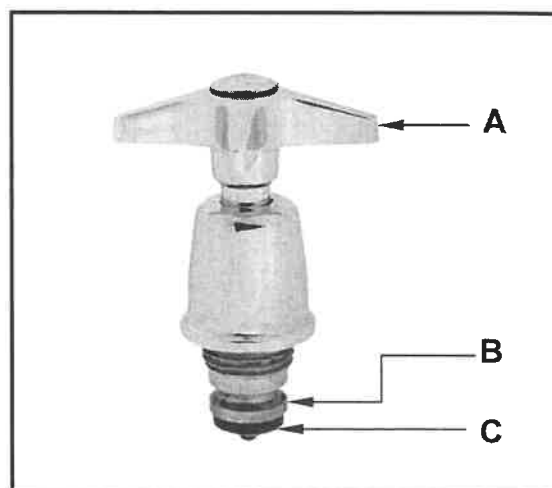

FIGURE 4.8
4.8 FIGURE 4.8 below shows a pillar tap mechanism.